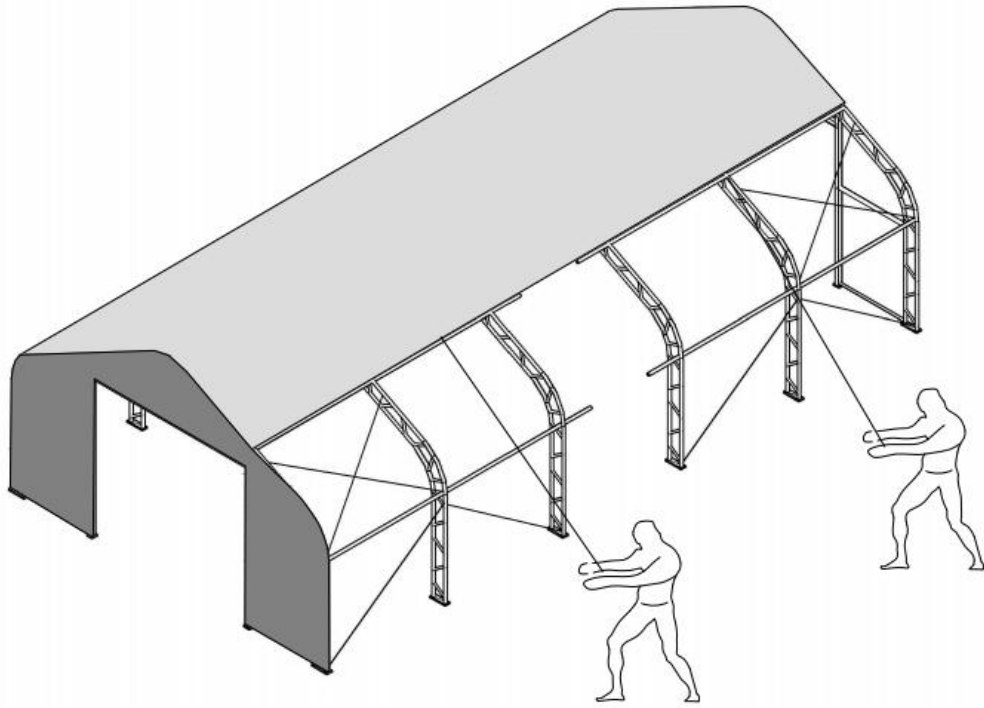

Figure 9
1. When Roof cover is over top of Frame assembly (see Figure 9&10), insert Tensioning tubes (No.14) into pockets along both sides of Roof cover, cut opening for Nylon band for ratchet, find the Nylon band over tube feed end into tie down to ratchet (No.21).